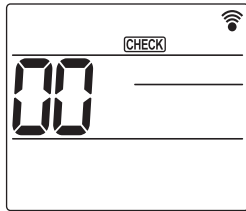

Fig. 7-8
- ① Turn on the power to the unit at least 12 hours before the test run.
- ② Press the **MENU** button for 5 seconds. (Fig. 7-8)